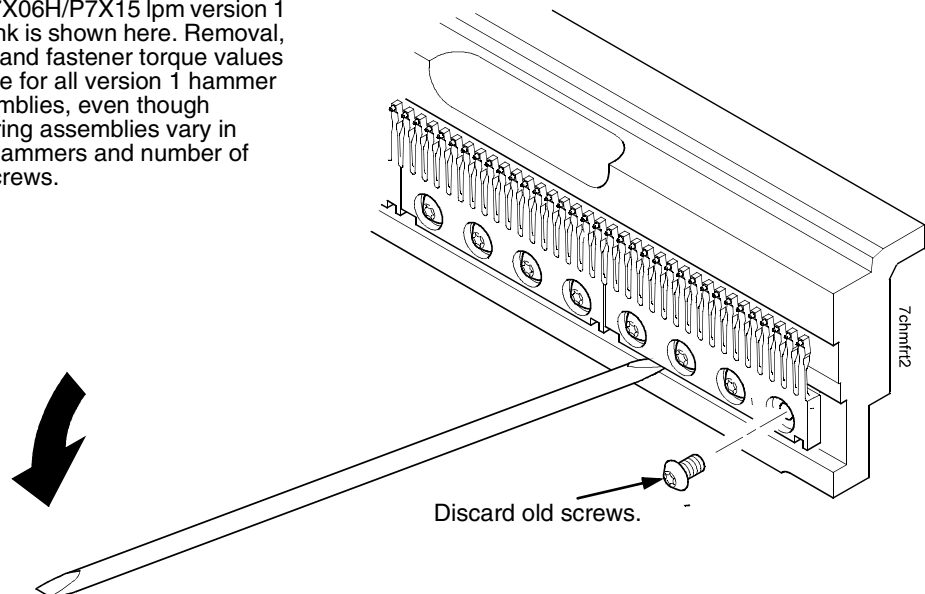

Figure 25. Hammer Spring Assembly, Removal
5. Remove the mounting screws from the old hammer spring assembly. (See Figure 25.)
6. Handling the hammer spring assembly by the mounting base only, gently push up the mounting base and pry the old hammer spring assembly off its mounting pins. (See Figure 25.)